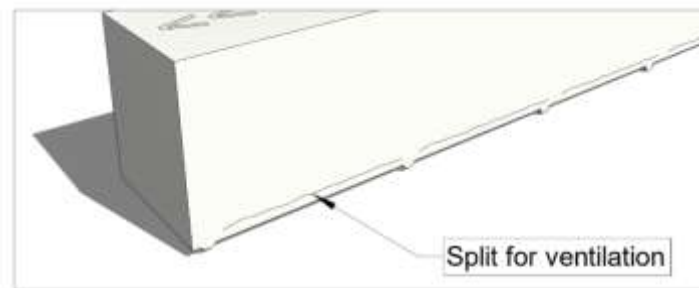

Fig. 5.3
- 5.3 Split bottom wrapping as shown for ventilation (figure 5.3).